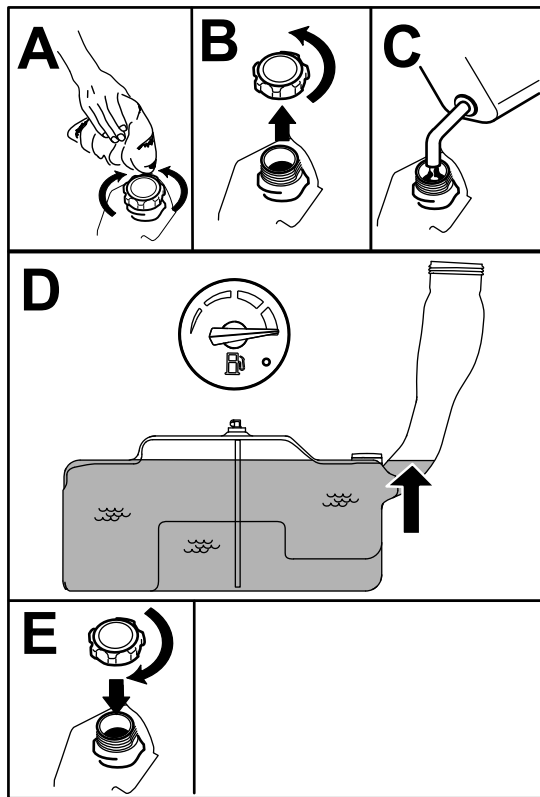

Figure 7
- Fill the fuel tank until the fuel gauge reads at the full mark (Figure 7).